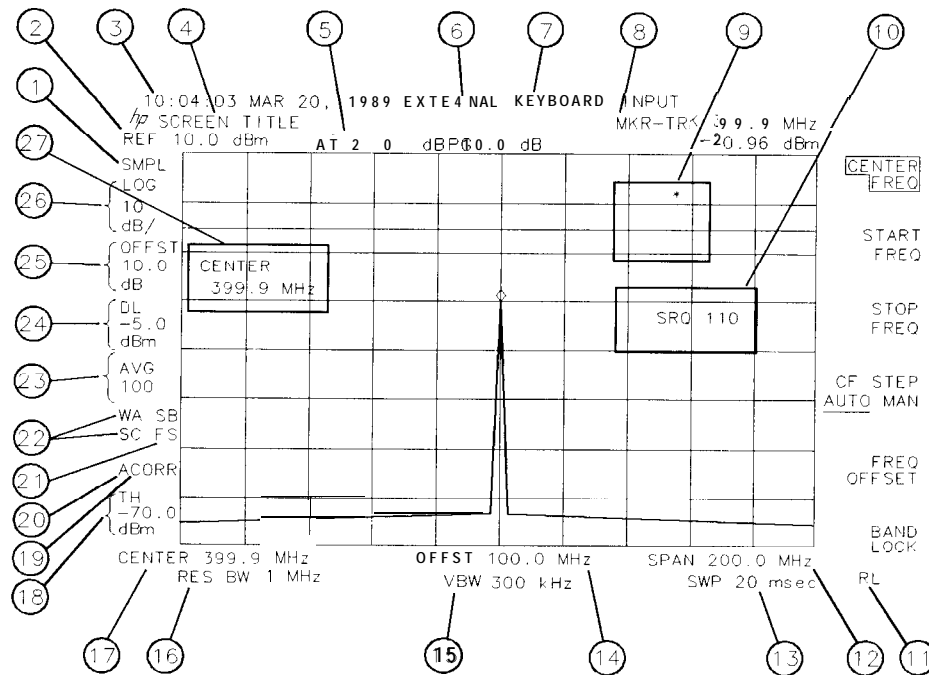

Figure 2-4. Screen Annotation
Figure 2-4 shows an example of the annotation that may appear on a spectrum analyzer screen. The screen annotation is referenced by numbers and is listed in Table 2-2. The function key column indicates which front-panel key or softkey activates the function related to the screen annotation. Refer to Chapter 7 for more information on a specific function key.
In Figure 2-4, item 21 refers to the trigger and sweep modes of the spectrum analyzer. The first letter (“F”) indicates the spectrum analyzer is in free-run trigger mode. The second letter (“S”) indicates the spectrum analyzer is in single-sweep mode.
Item 22 refers to the trace modes of the spectrum analyzer. The first letter (“W”) indicates that the spectrum analyzer is in clear-write mode. The second letter is “A,” representing trace A. The trace B trace mode is “SB”, indicating trace B (“B”) is in the store-blank mode (“S”). The trace mode annotation for trace C is displayed under the trace mode annotation of trace A. In Figure 2-4, the trace C trace mode is “SC”, indicating trace C (“C”) is in the store blank mode (“S”).